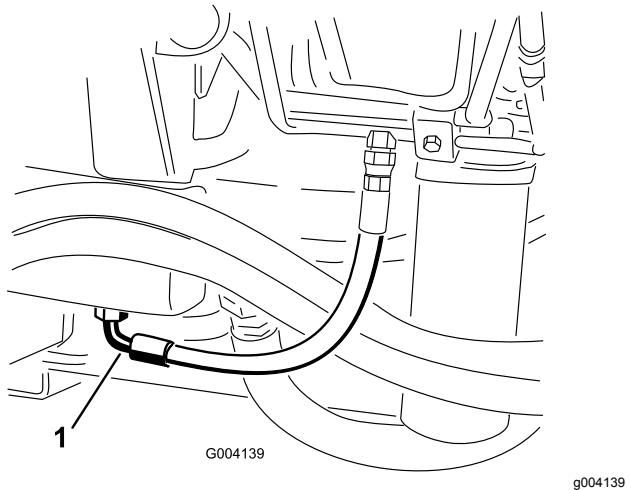

Figure 65
2. Place a large drain pan under the fitting secured to the bottom of the hydraulic-fluid reservoir (Figure 65).